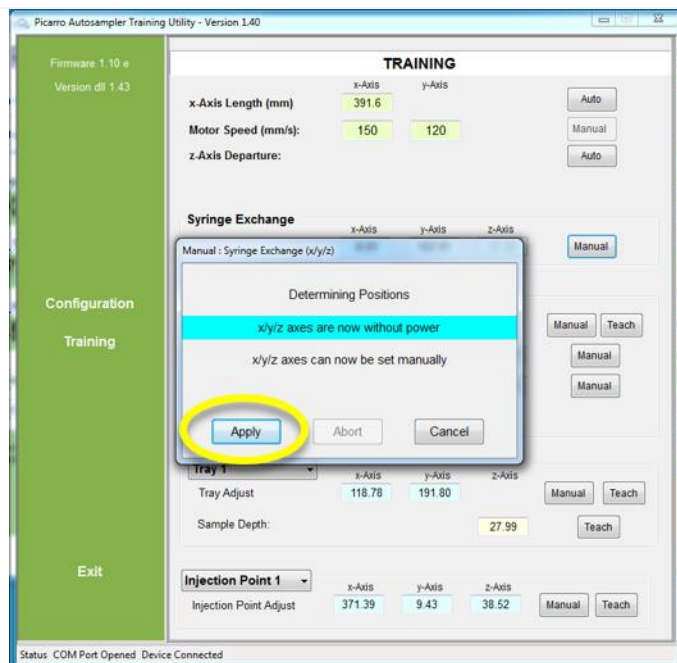

Figure 139. Click Apply for Wash Station.
STEP 18 | Return to the application and click **“Apply”** on the pop up window to activate the test run of the Wash Station manual setting (Figure 139).